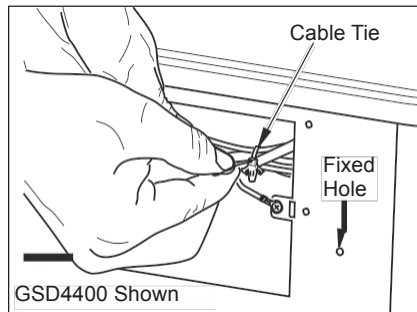

Figure 29 - Securing Blower Wires
12. Bundle the wiring with the cable tie (see Figure 29). Attach cable tie to the stove through the hole as shown in Figure 29. This is to avoid any heat damage. Actual heater may vary from illustration. The hole will be to the right of the blower access opening.